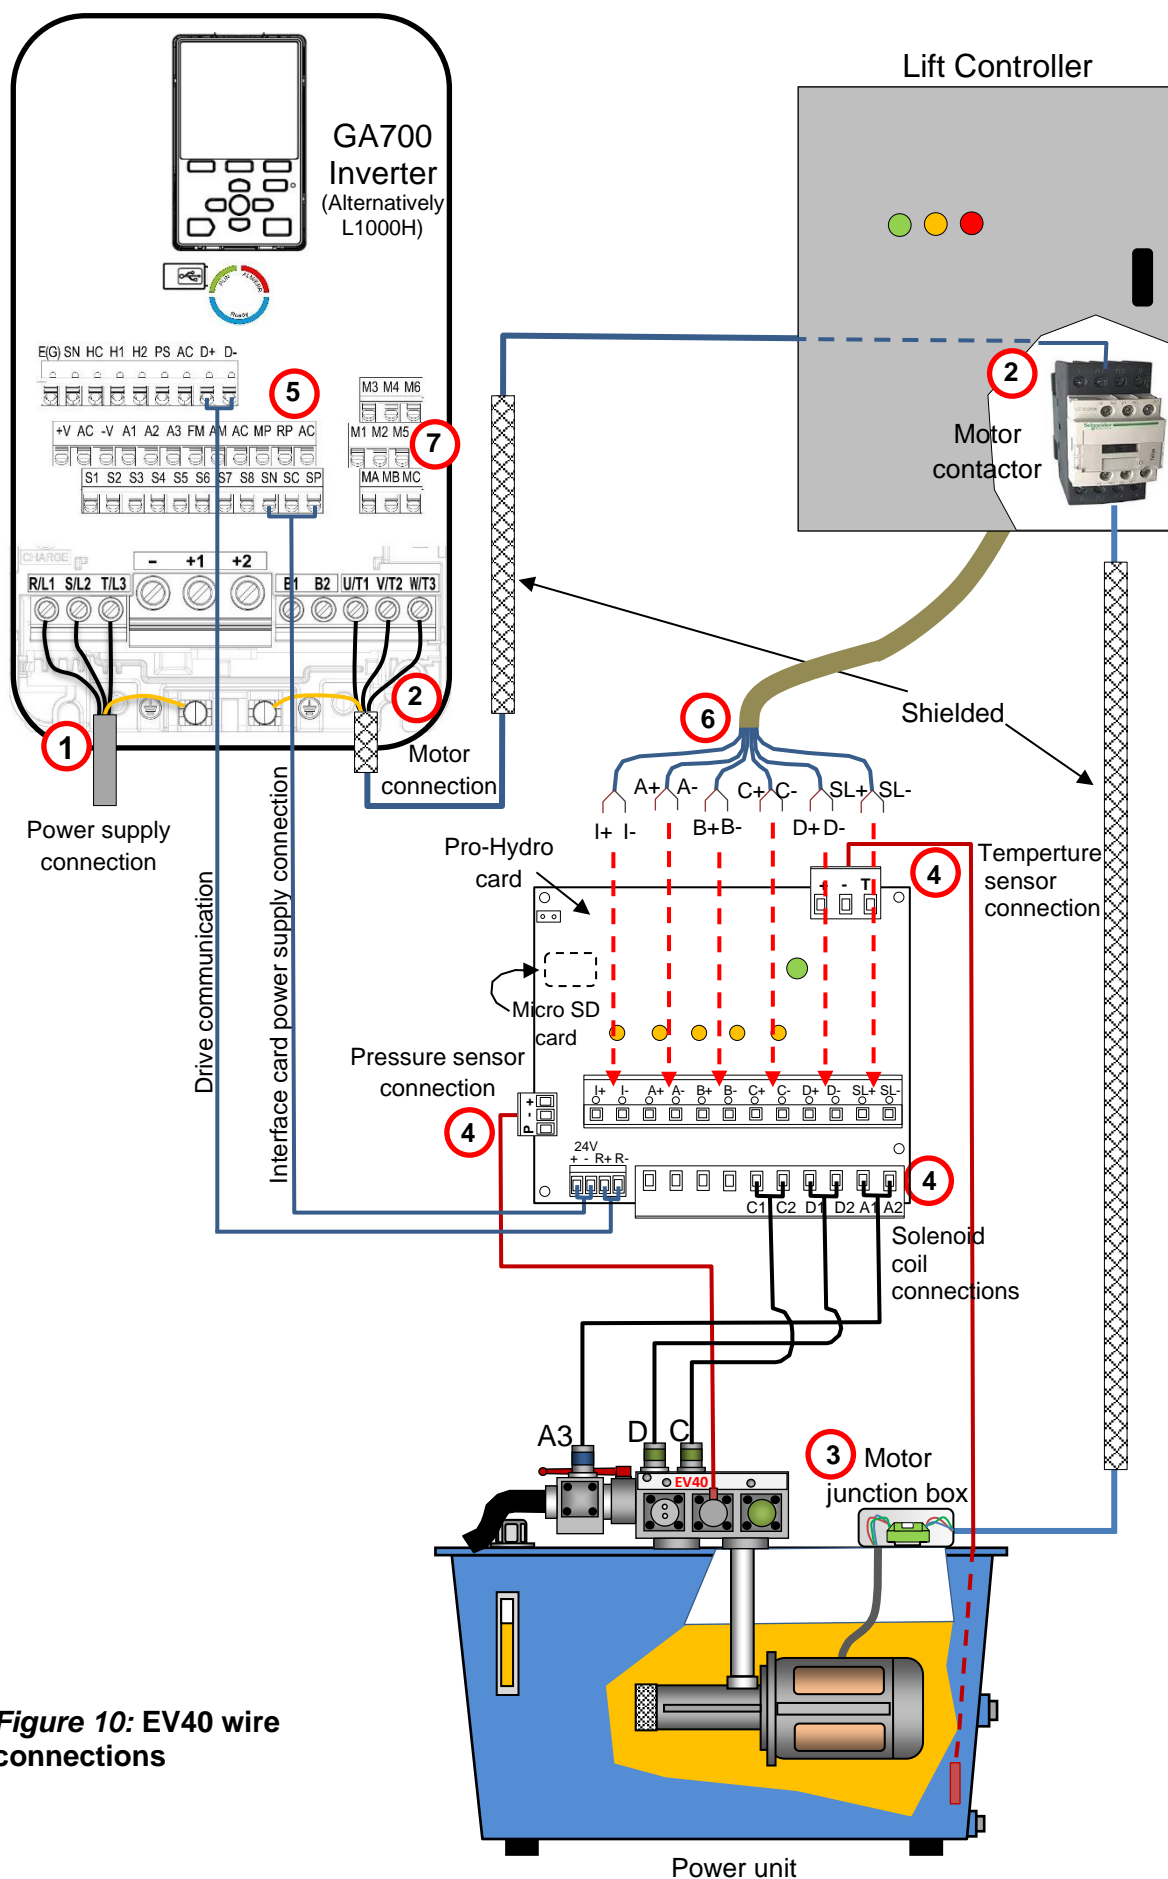

Figure 10: EV40 wire connections
3.3 PRO-HYDRO INSTALLATION STEPS (SEE FIGURE 10)
- 6) Perform **Pro-Hydro** connection to the lift controller: Signalling coil connections (I, A, B, C, D, SL) are done as shown in Figure 10 - see Section 3.3.6.